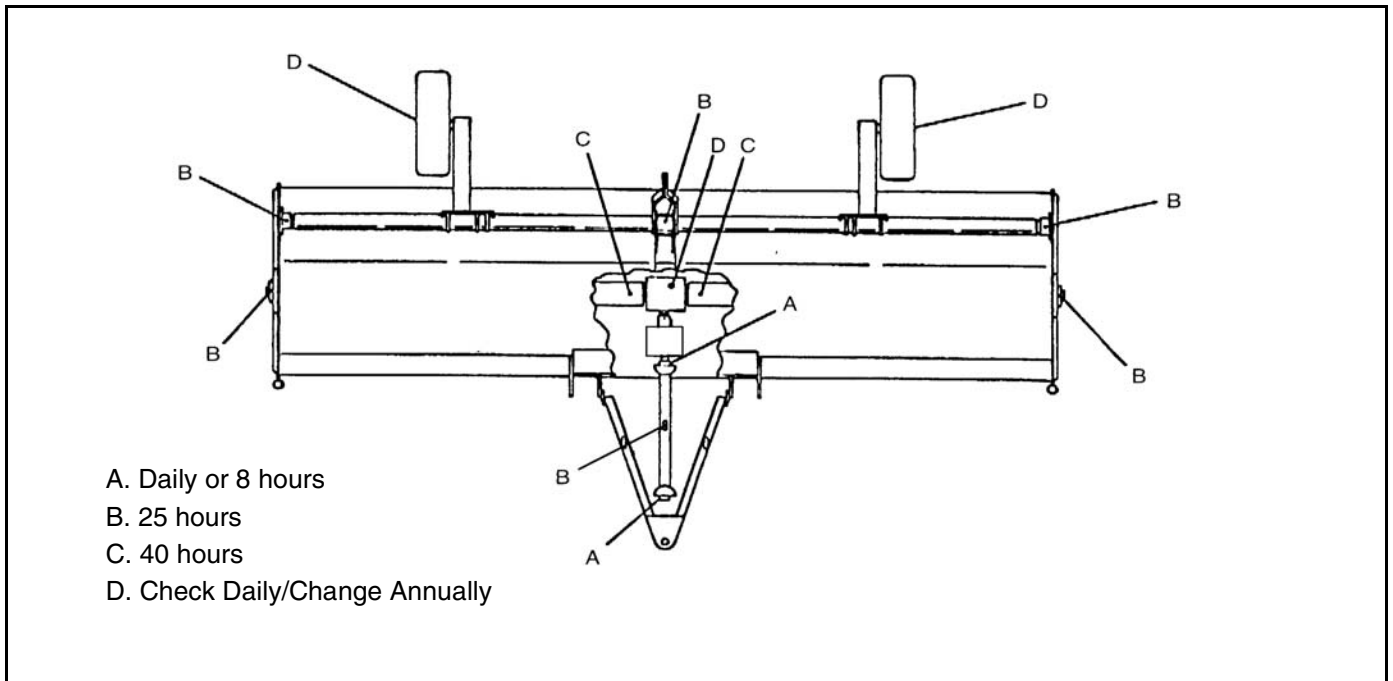

Figure 21. Lubrication Points
NOTE: Recommendations are based on normal operating conditions. Severe or unusual conditions may require more frequent lubrication or oil changes. Refer to Figure 21.
1. Lubricate PTO driveline telescoping section (one location, Position B, Figure 21).